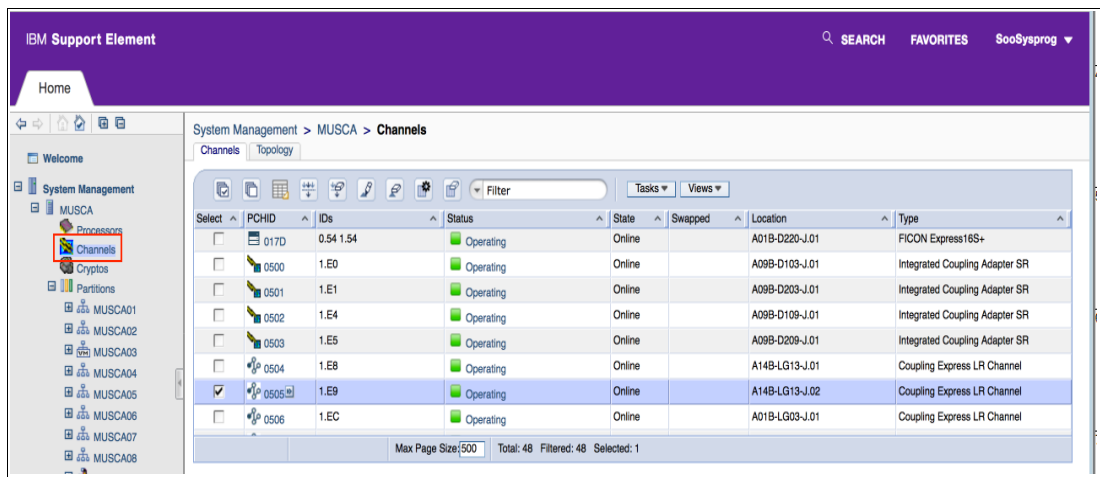

Figure 9-3 SE Systems Management and channels
- b. On the SE, select the same CEC and click **Channels**, as shown in Figure 9-3.